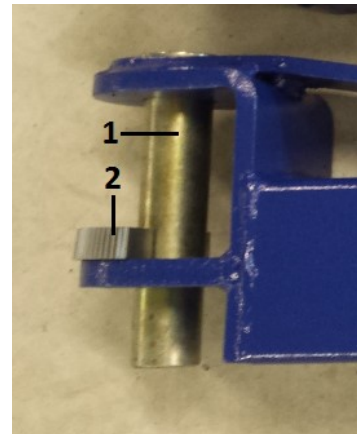

Fig.18
1. Remove the pin (1, fig.18) out of the arm.
2. Grease the pin and tothing of the arm (2, fig.18) with EP40 multigrease, also grease the tothing of the lifting body (44, partslist) its locking system.